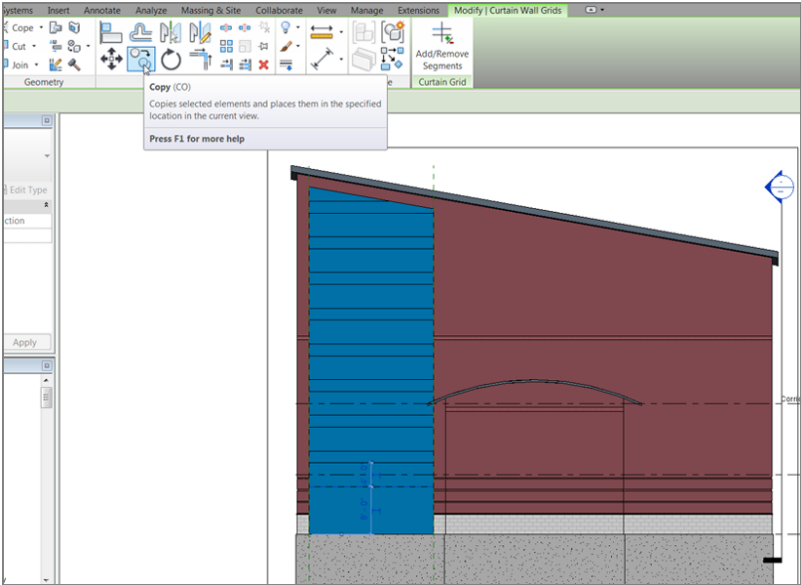

FIGURE 16.32: Copying the grids to form the custom curtain wall
9. Repeat this pattern until you've reached the top of the wall (see Figure 16.32).